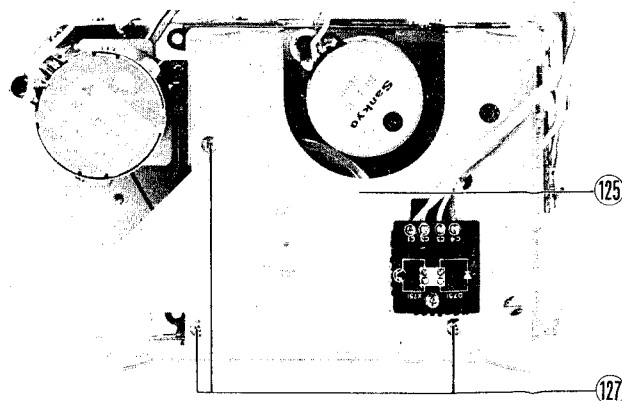

Fig. 12
## G. Flywheel holder (125) (Fig. 12)